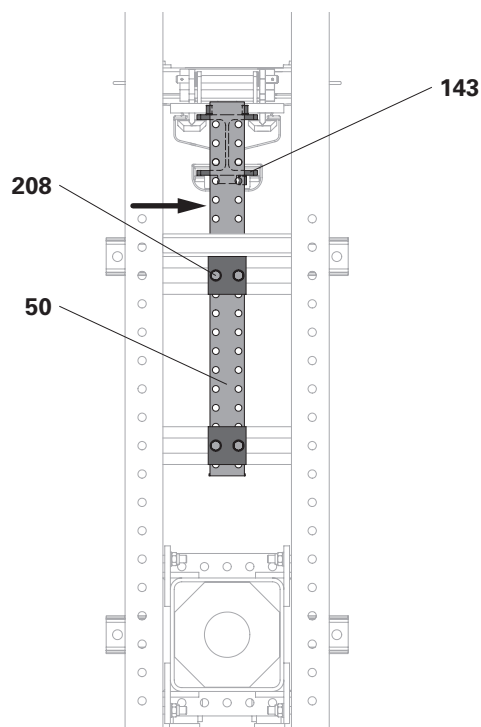

Fig. C6.07
1. Slide the Panel Beam 1110 ACS (50) into the installation position and tighten the screws (208).
Fig. C6.07 shows the Climbing Rail ACS (143) and the Panel Beam 1110 ACS (50) after installation.